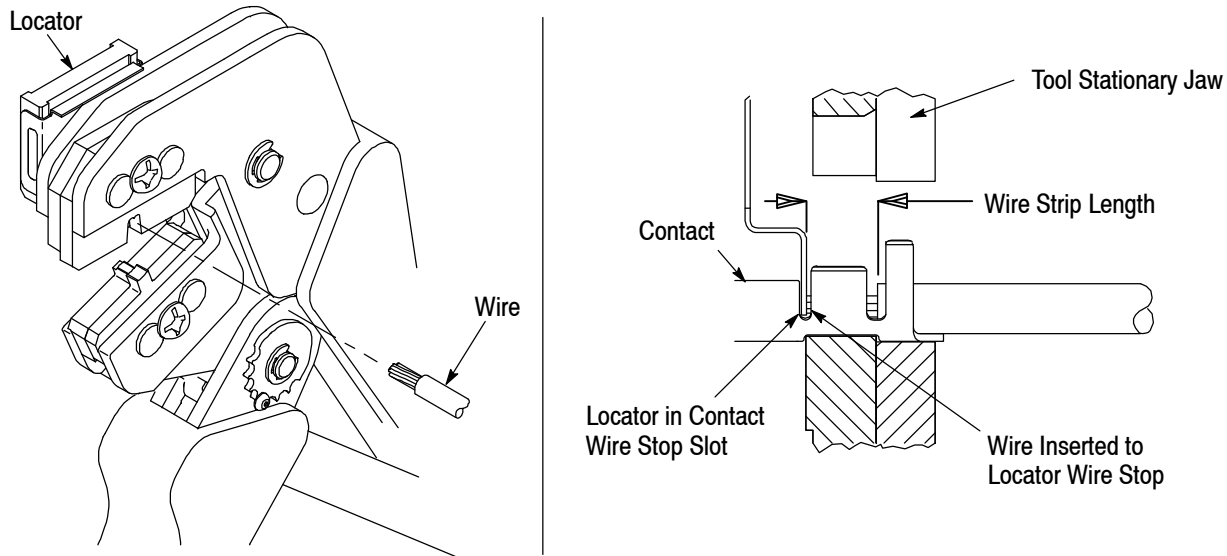

Figure 3
Refer to Figure 3, and proceed as follows:
5. Insert stripped wire into contact insulation and wire barrels until it is butted against the wire stop, as shown in Figure 3.
NOTE The crimped contact may stick in the crimping area, but can be removed by pushing downward on the top of the locator (see Figure 3).